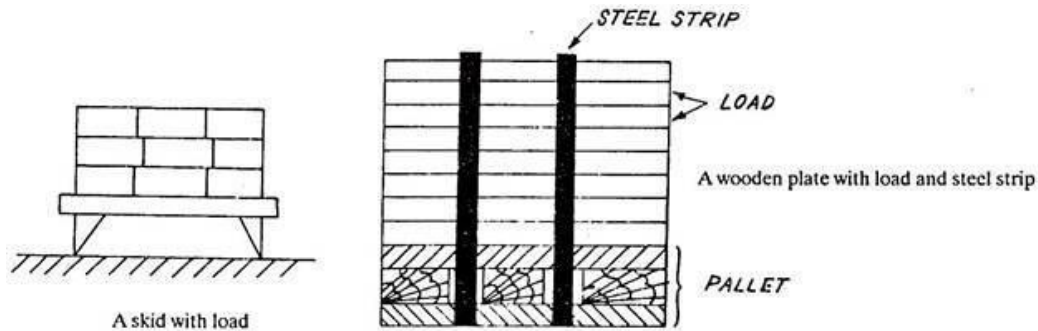

Fig. 25.33. Skid and pallet.
- By using available machines (like one for strapping steel strips around cotton bales), fork lift trucks, skids and pallets (see Fig. 25.33), it is easy to handle materials in unit loads and stack them neatly and properly (even as high as the ceiling) thereby reducing the storage space requirements.